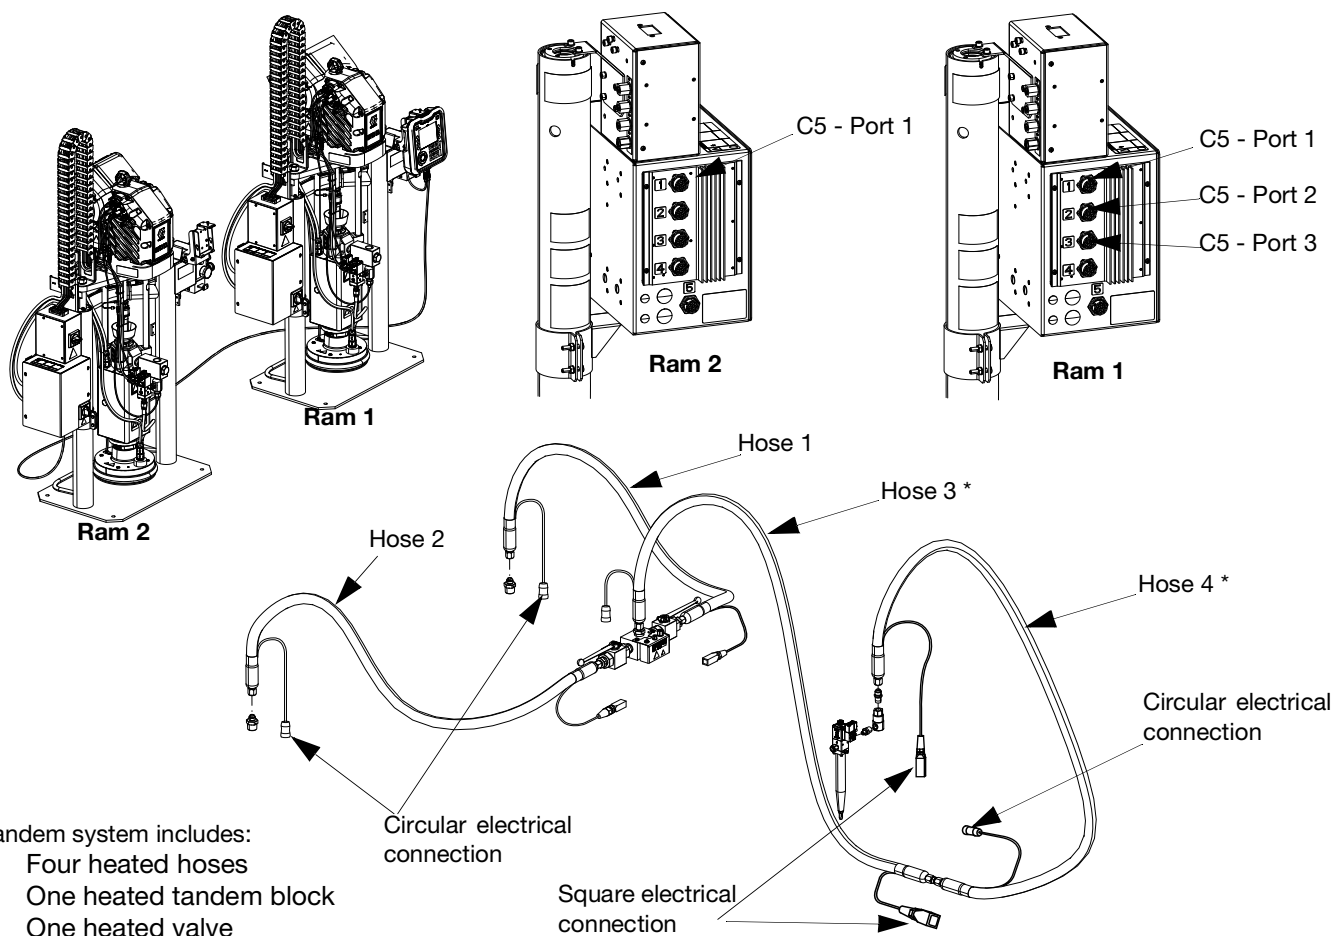

FIG. 33
- Heated Valve - Square electrical connection from hose 4 to iQ dispense valve (B).
- Heated Tandem Block - Square electrical connection from hose 1 or hose 2 to heated tandem block (R). See FIG. 33.